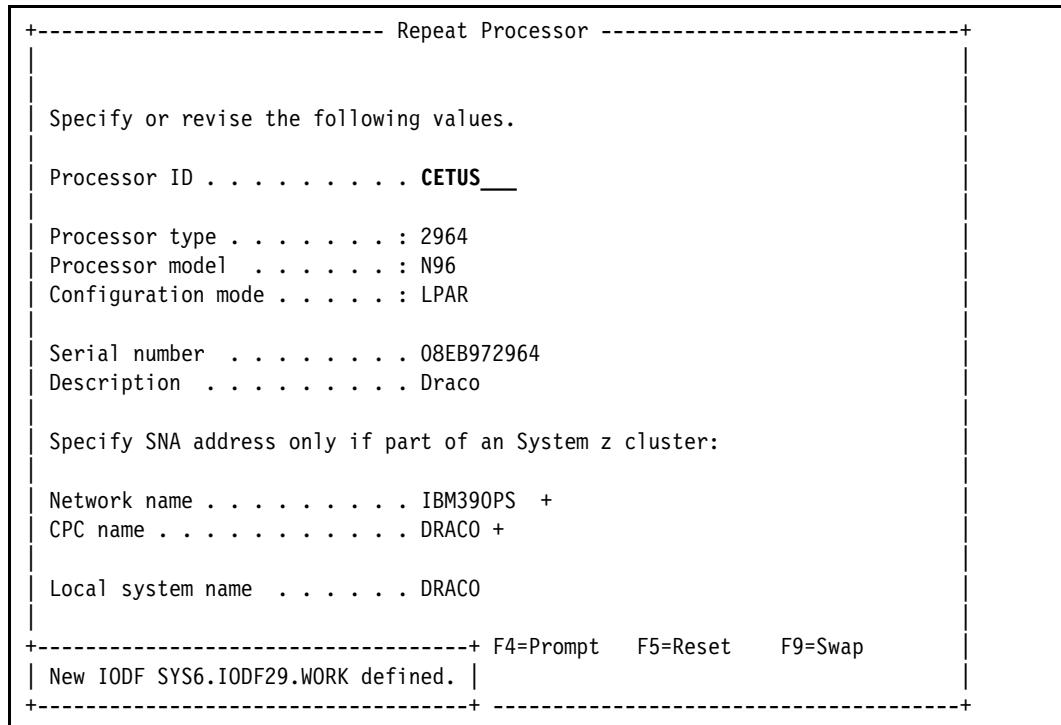

Figure 3-2 Repeat Processor: Defining a new Processor ID
5. The Repeat Processor panel opens (Figure 3-2). Enter the Processor ID of the new 3906 (in this example, CETUS), keep all the other fields unchanged, and press **Enter**.